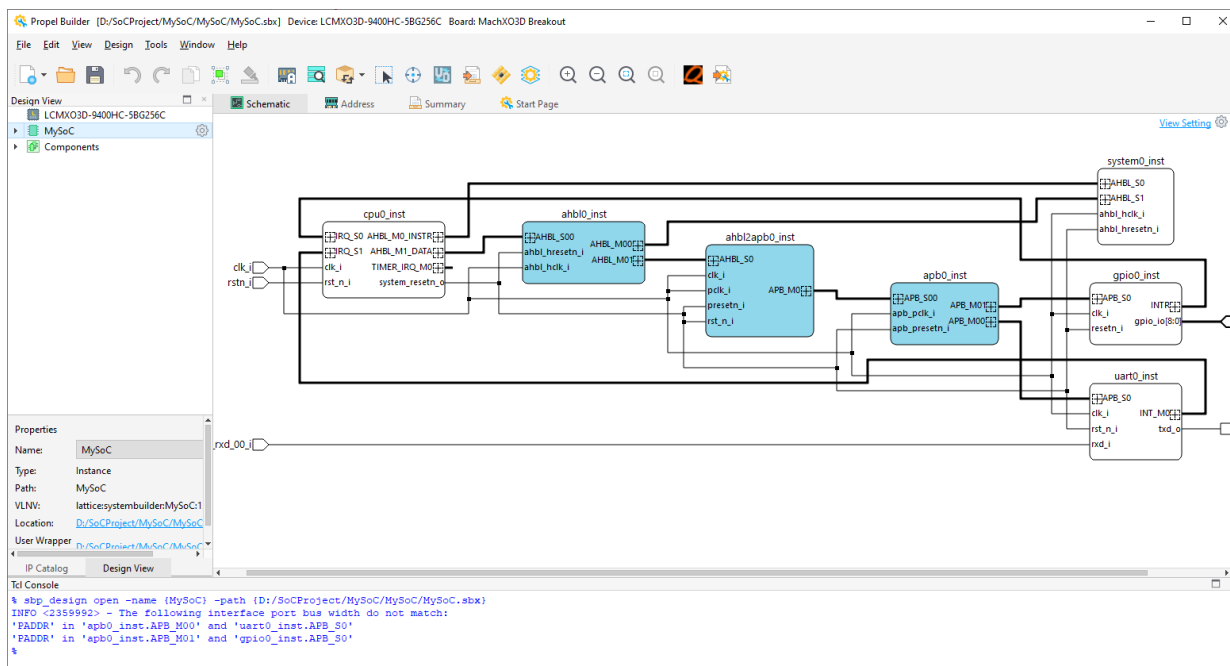
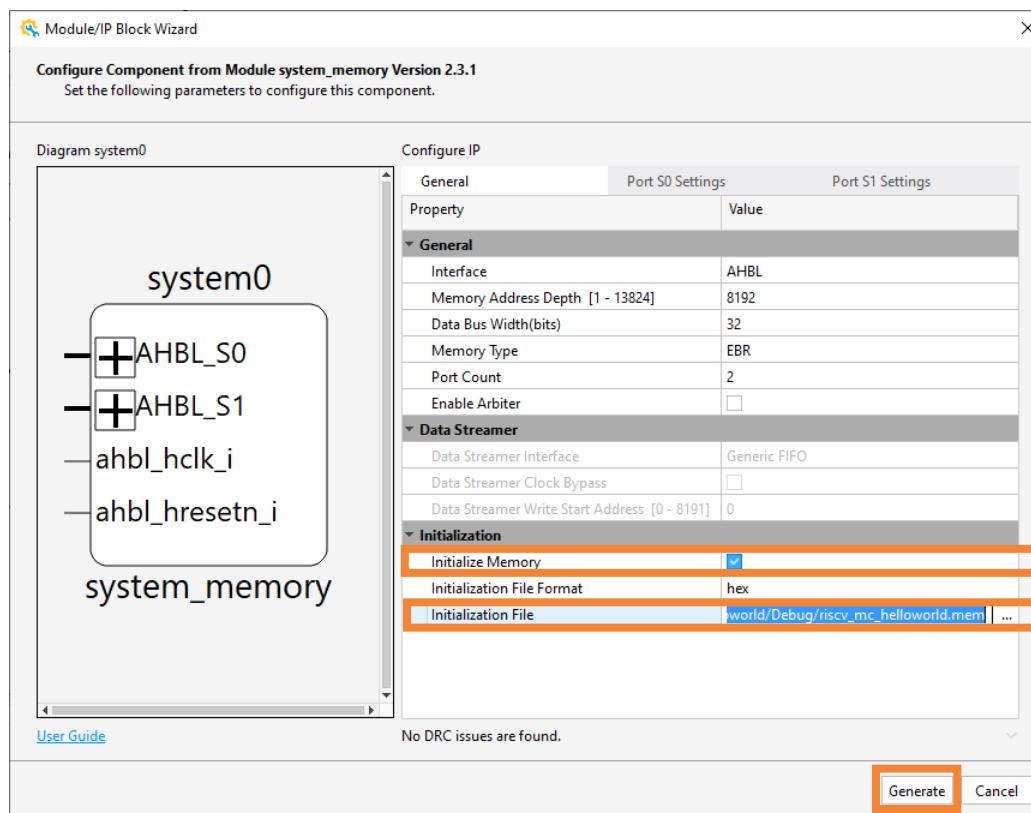

Figure 6.10. Project Workbench
Figure 6.13. Configuring System Memory Module 2
- Click **Finish**. An SoC project is created, as shown in Figure 6.10.
- In SoC project workbench (Figure 6.10), Choose **Design > Generate > Generate** to create C project requirement files. Choose **Design > Run Propel** to switch to Lattice Propel SDK.
In the SoC project workbench (Figure 6.10), update the SoC design to set the preloaded software. Enable the **Initialize Memory** checkbox for the System Memory IP instance from the **Initialization** area of the **General** tab. Set **Initialization File** (Figure 6.13) generated from the corresponding Hello World C project in the **Creating a Hello World C Project** section. Click **Generate** (Figure 6.13).
In the SoC project workbench (Figure 6.10), choose **Design > Generate > Generate**.
1. In the SoC project workbench (Figure 6.10), choose **Design > Run Diamond**. A Lattice Diamond project is created and opened automatically in the Lattice Diamond software.